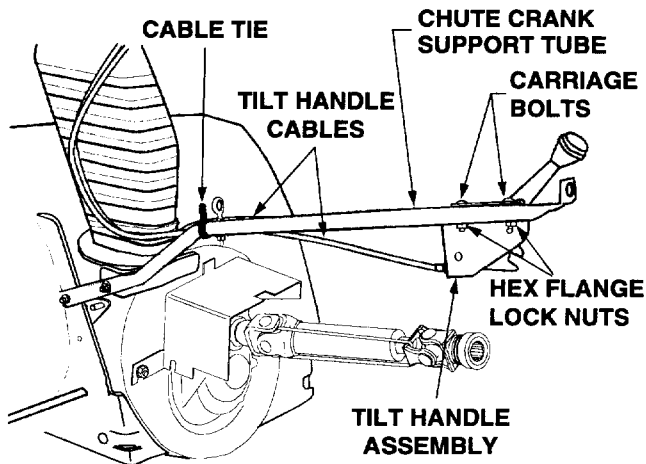

Figure 5
6. Routing the tilt handle cables along the inside of the chute crank support tube (D), install the chute tilt handle assembly (C) on the support tube using the carriage bolts (4) and hex flange lock nuts (5). Refer to Figure 5.
7. Secure the tilt handle cables (C) to the support tube (D) with the cable tie (11). See Figure 5. Cut excess length from the cable tie.